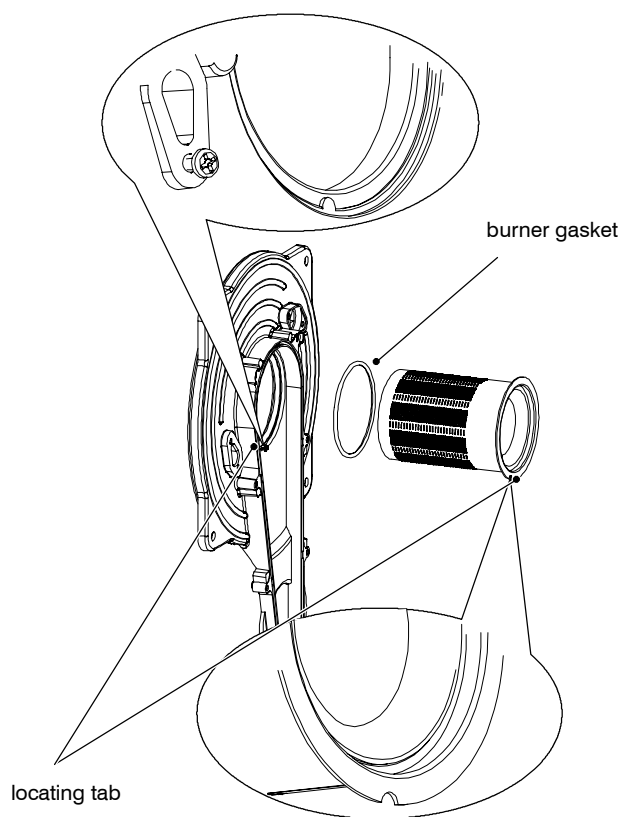

Fig. 18.4
- 6 Assemble the burner carrying out the removal operation in reverse order. Ensure the burner is correctly located by lining up the locating tab (Fig. 18.4).